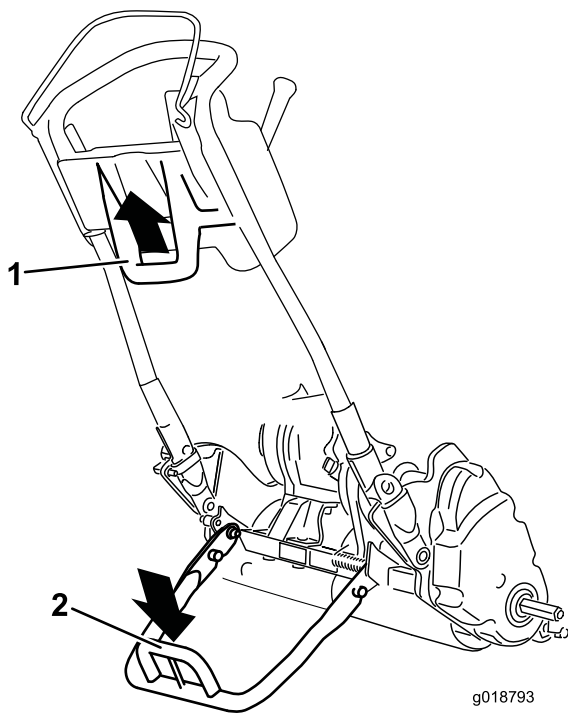

Figure 21
- To use the kickstand to install the transport wheels, lower it to the ground and step down on the kickstand loop while pulling up and back on the lower center machine handle (Figure 21).